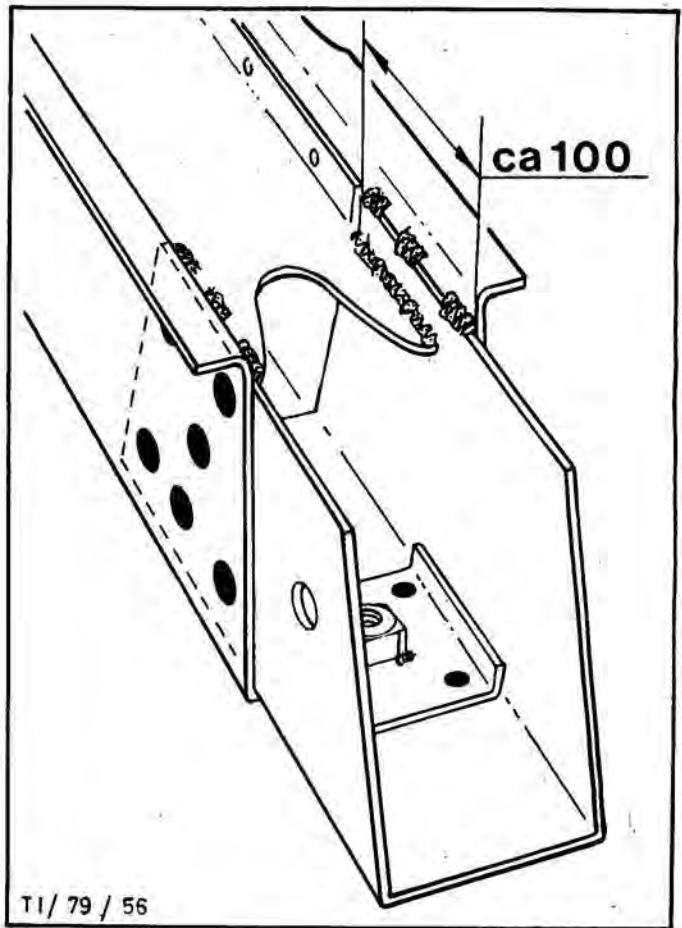

Fig.92. Weld locations on shoe and weld nut retaining plate.
NOTE: For side members with additional reinforcement plate (diesel and HD version) the reinforcement plate must be welded in approx. 100 mm right and left before inserting the shoe, Fig.92.
13. Weld shoe as well as weld nut retaining plate, Fig.92.